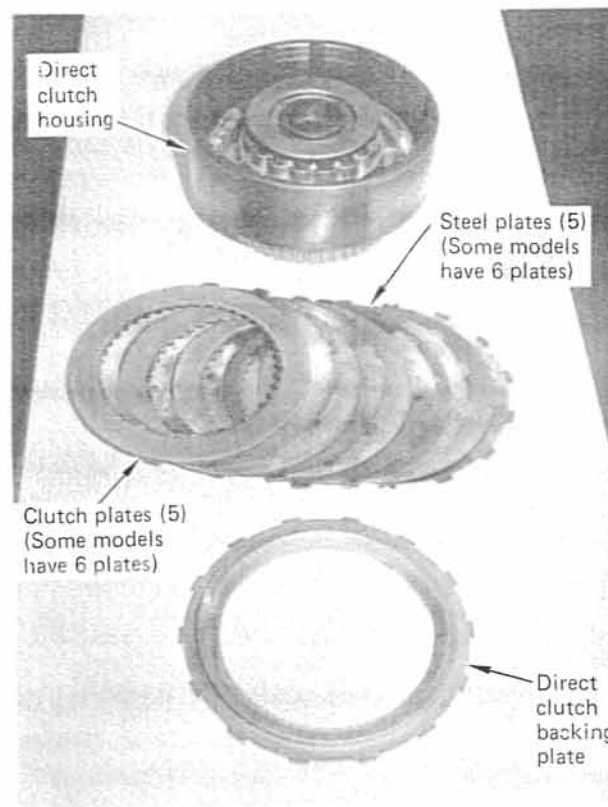

FIGURE 22
**STEP 1.** Remove the snap ring from the front of the direct clutch housing. (See Fig. 22) Remove the direct clutch backing plate, five clutch plates and steel plates. (Note: Some high performance Chevrolet units may have six plates and steels.) Discard the clutch plates and steel plates.
**IV. Direct Clutch (Refer to Figure 22)**